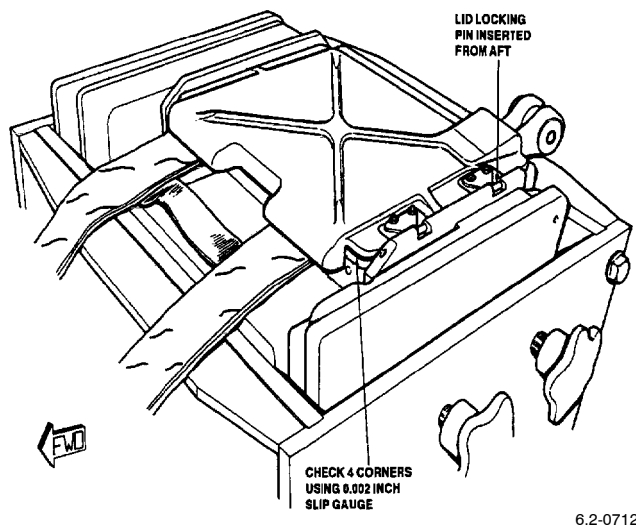

Figure 62. Parachute Container Lid Closed
f. Using the footpedal, carefully apply pressure until the lugs are fully engaged in the slots and at the same time ensuring that the withdrawal line and riser seals are correctly located. (QA)
g. Secure the lid by inserting the securing pin from the rear (Figure 62). (QA)
i. Using a 0.002 in. slip gauge check that there are no gaps at each corner of the pack (gauge should not enter). If gauge enters, remove the lid and recompress the deployment sleeve until the fitted lid parameters are met (Figure 62). (QA)